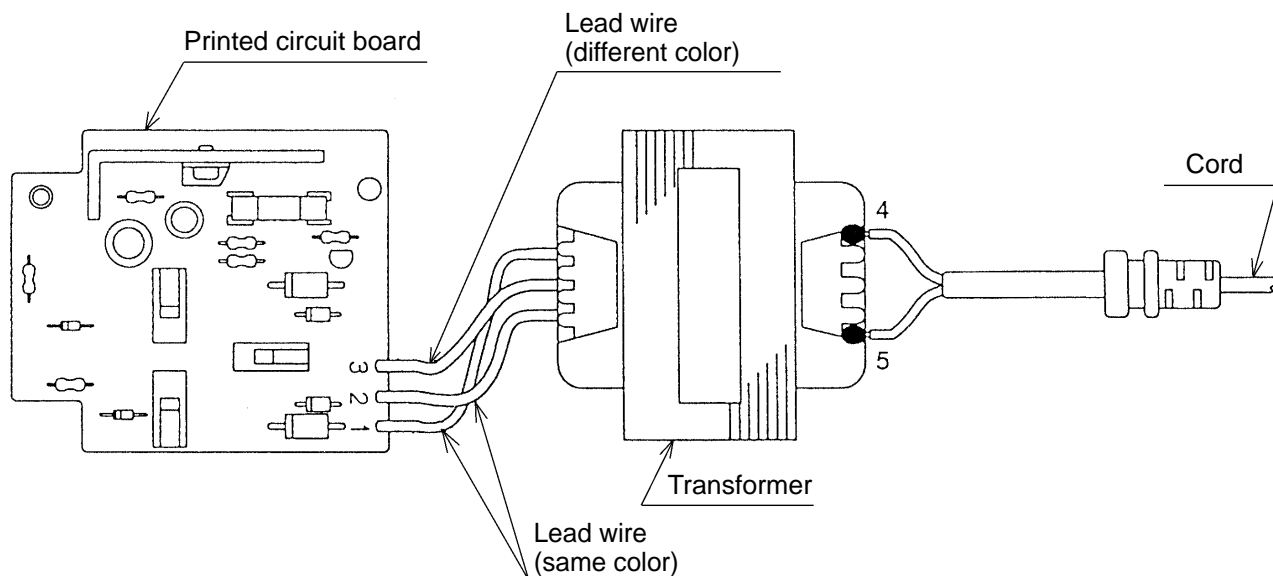

Fig. 3
- (1) Remove the four Screws (Plastic Tie) D4 x 20 **[5]**, and take off case (B).
- (2) When the Transformer **[8]** is lifted upward, the Printed Circuit Board Ass'y **[4]** and the Cord **[9]** can be removed together.
- (3) To separate the Printed Circuit Board Ass'y **[4]**, Transformer **[8]** and Cord **[9]**, melt their soldered connections with a soldering iron at the points marked 1, 2, 3, 4 and 5 in Fig. 3. As excessive heat may damage the material of the printed circuit board, use of the soldering iron should be limited to less than three seconds at one time.